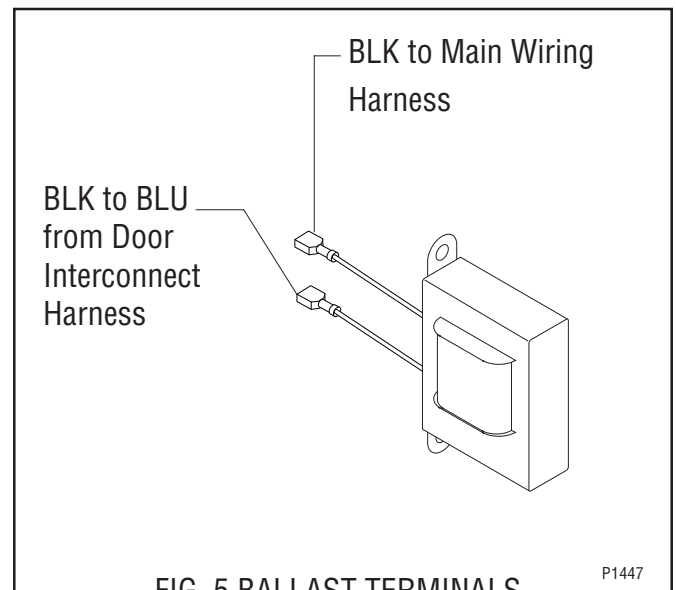

FIG. 5 BALLAST TERMINALS
5. Refer to Fig. 5 when reconnecting the wires.